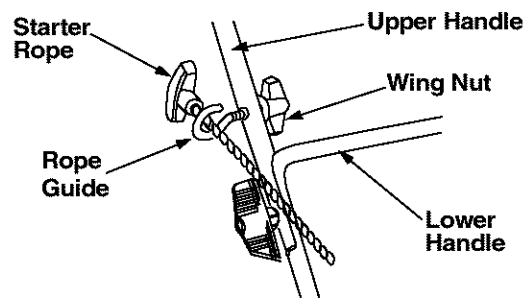

Figure 4
- If not already, move rope guide to the first hole above the lower handle on right side. The wing nut loosens and secures the rope guide. See Figure 4.